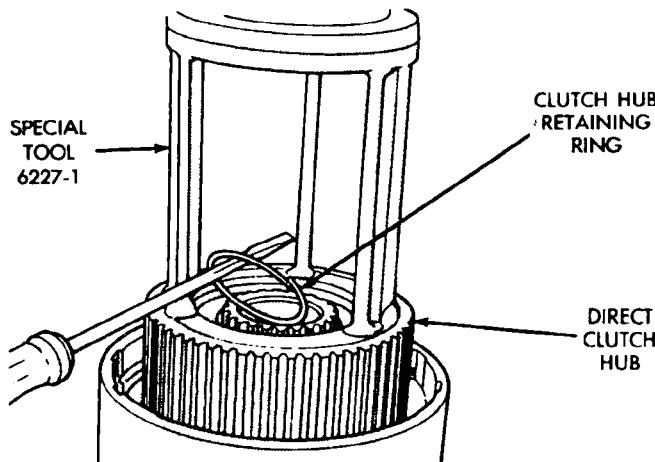
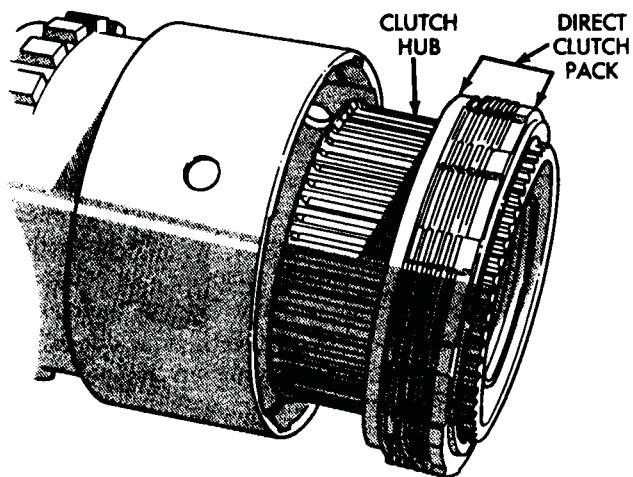

Fig. 23 Direct Clutch Hub Retaining Ring Removal
Fig. 24 Direct Clutch Pack Removal
- (11) Remove direct clutch hub retaining ring (Fig. 23).
- (12) Release press load on clutch spring **slowly and completely**. Remove press tools and geartrain.
- (13) Remove direct clutch pack from hub (Fig. 24).